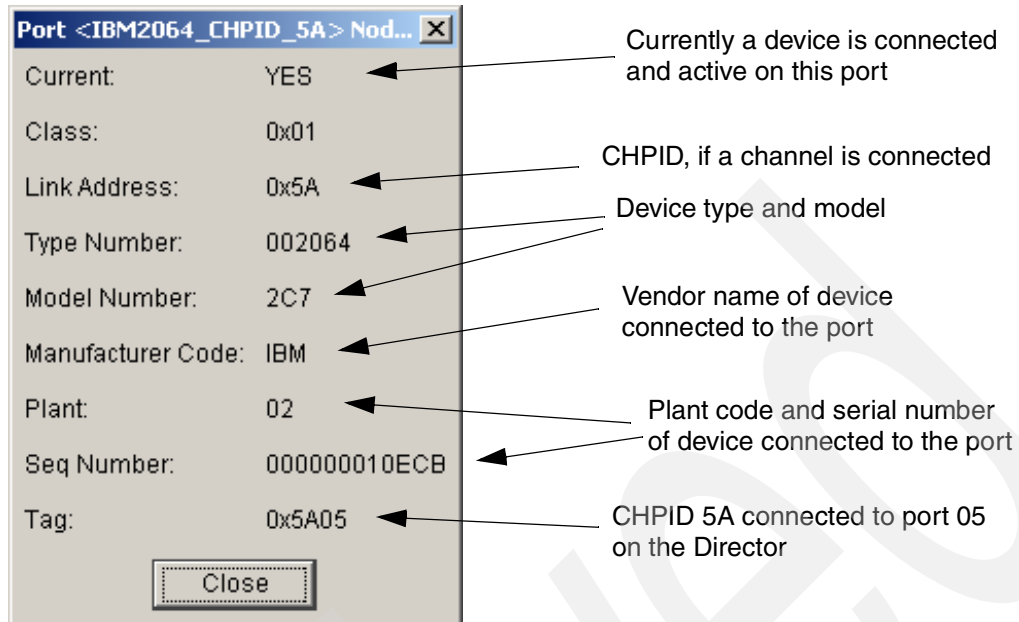

Figure 5-15 Port Node Information panel
4. For each port that already has a device attached, check that device is connected to the correct port. To display information about the connected device, right-click the appropriate port. On that option menu, select **View Node Descriptor**. The Port Node Descriptor panel provides information about the connected device. See the example in Figure 5-15.